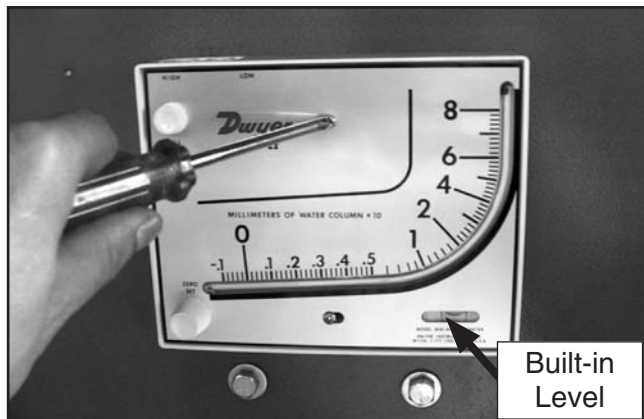

Figure 15. Mounting manometer to spray booth.
1. Mount the manometer to the side of the spray booth by threading the M4 x 45 tap screws into the pre-drilled holes (**Figure 15**).
2. Adjust the manometer so the built-in level reads level (**Figure 15**).